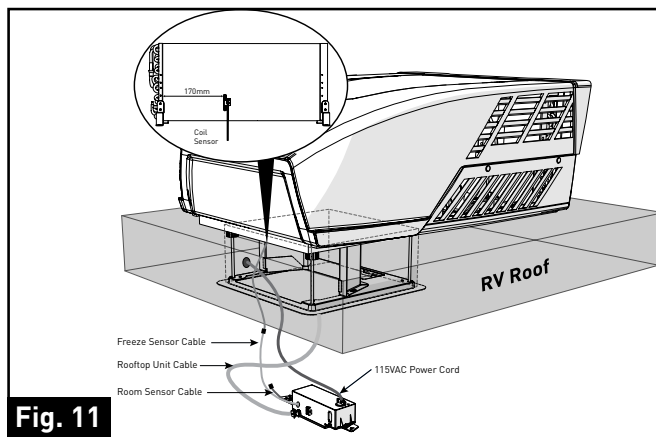

Fig. 11
12. Connect the freeze sensor cable of the control box to the freeze sensor of the rooftop. (Fig. 11)